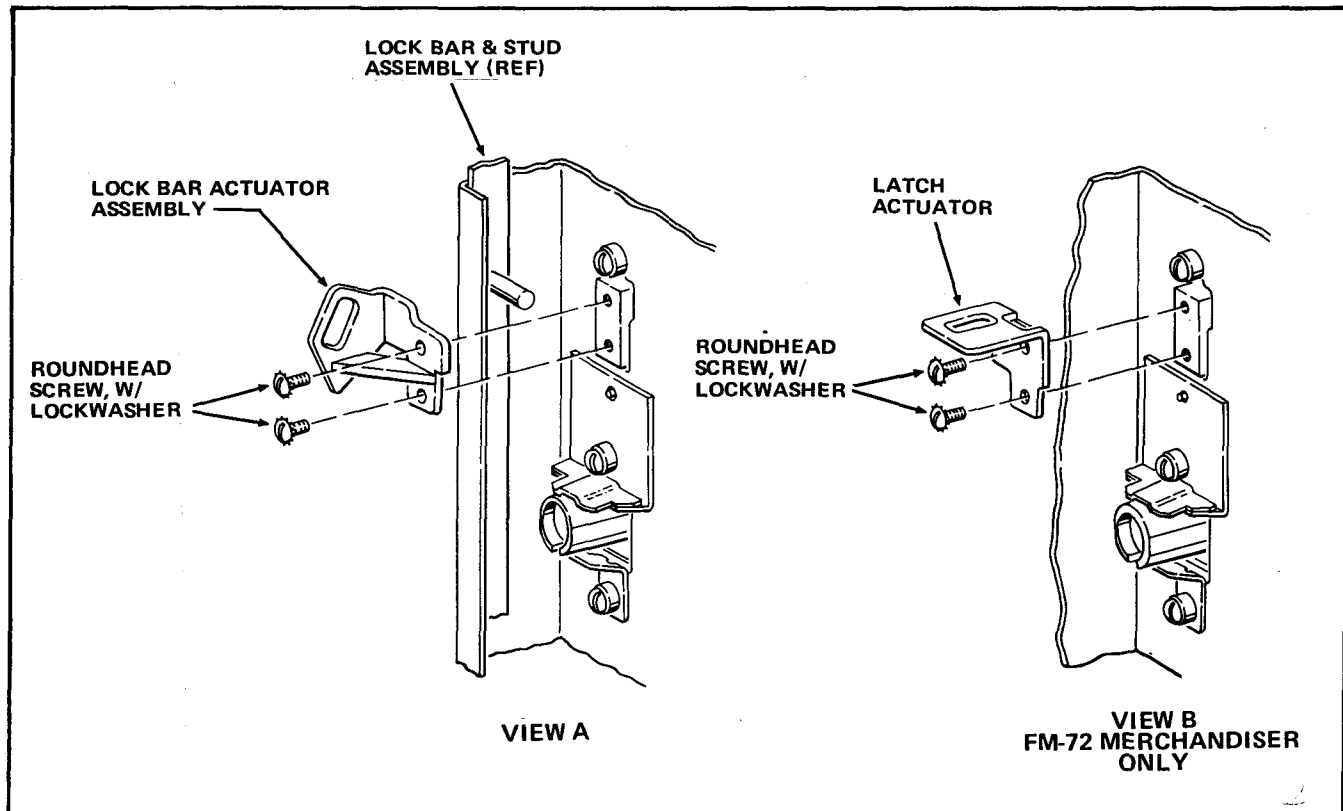

FIGURE 2
2. Remove the 2 Screws/Lockwasher which attach the Lock Bar Actuator Assembly to the Lift Handle Lock Lever and remove the Lock Lever Assembly. See Figure 2, View "A" for Merchandisers other than the FM-72 or View "B" for the FM-72 Merchandiser.
5. Install the Lock Bar Actuator Assembly removed in step A-2 and attach the Actuator with the 2 Screws/Lockwasher removed in that step. For all Merchandisers except the FM-72, be sure the Stud on the Lock Bar And Stud Assembly is in the slot in the Actuator Assembly. See Figure 2, View A or View B.